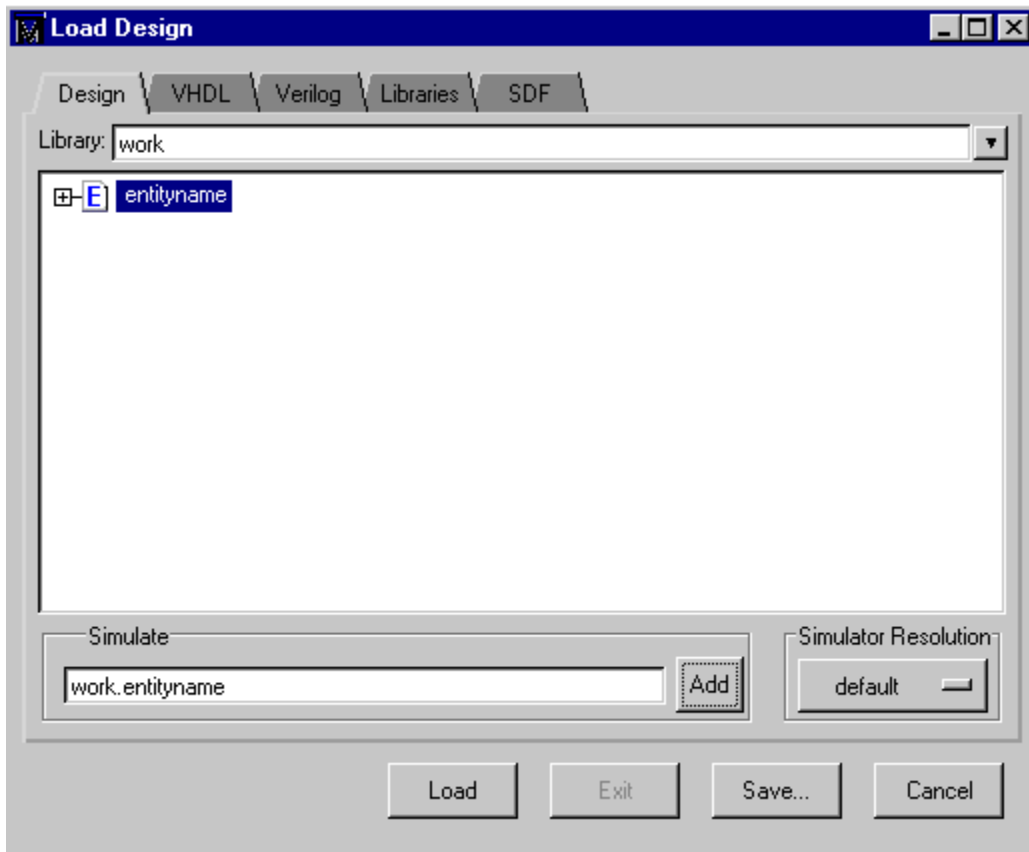

Figure 07. Load Design
8. Go to the **Design** menu and choose **Load Design**, the Load Design window appears, see **Figure 07**.